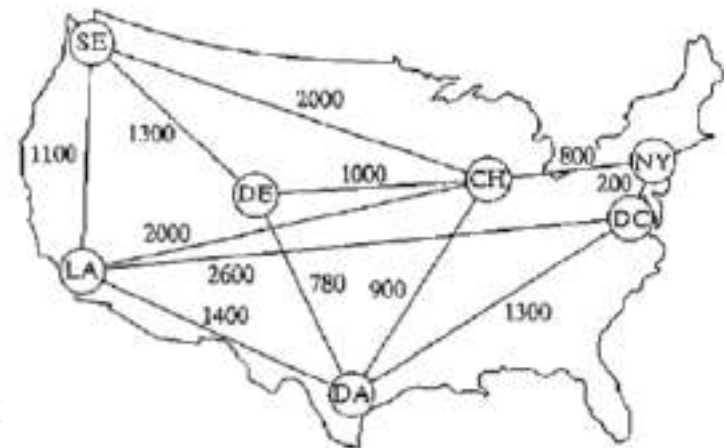

FIGURE 6.8
3. In intermodal transportation, loaded truck trailers are shipped between railroad terminals on special flatbed carts. Figure 6.8 shows the location of the main railroad terminals in the United States and the existing railroad tracks. The objective is to decide which tracks should be "revitalized" to handle the intermodal traffic. In particular, the Los Angeles (LA) terminal must be linked directly to Chicago (CH) to accommodate expected heavy traffic. Other than that, all the remaining terminals can be linked, directly or indirectly, such that the total length (in miles) of the selected tracks is minimized. Determine the segments of the railroad tracks that must be included in the revitalization program.